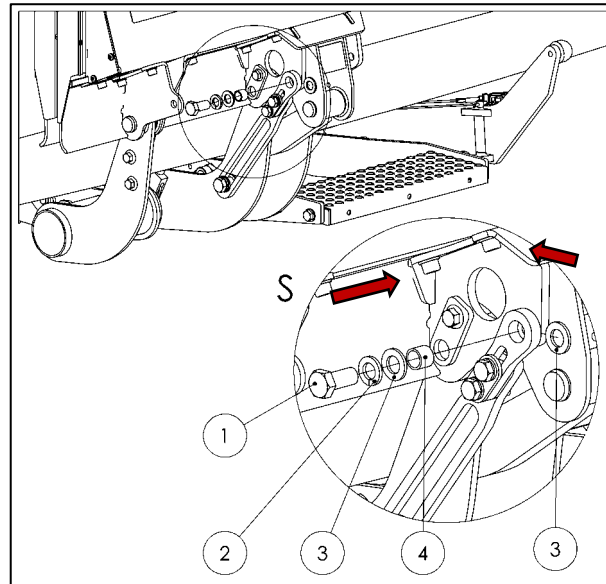

Fig. 60
- Mount the screw (1) for the platform lock, including the spring washer (2), washers (3), and sleeve (4), on the platform bearing (see Fig. 60).